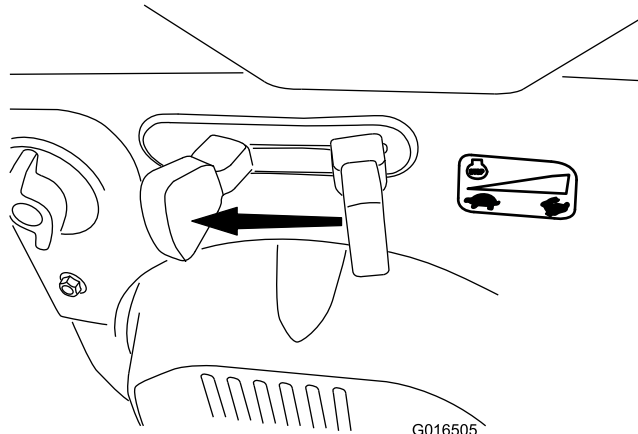

Figure 26
1. Move the throttle to the SLOW position, and then to the STOP position (Figure 26). You can also shut off the engine by pulling the ignition key outward to the middle position.